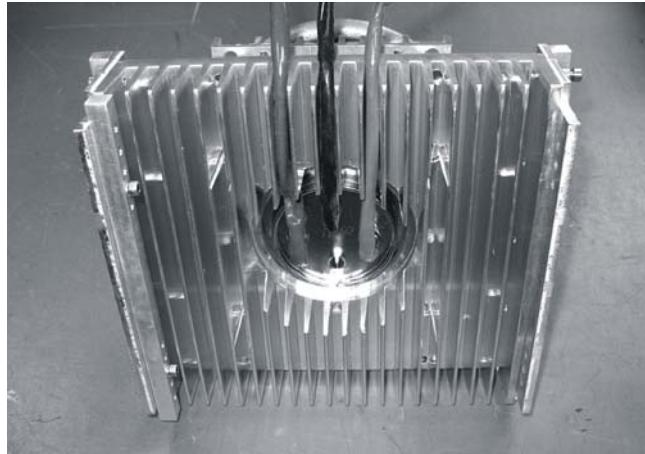

Figure 53: Top view of thyratron and heat sink assembly
Figure 53 on page 79 shows the correct cable positions after reassembly.
25. Place the thyratron connections cables between the fins of the cathode heat sink to prevent them from getting trapped during installation into the laser device (see Figure 53).